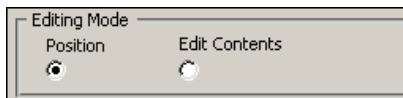

Figure 2-15. Position Mode
- **Move Fields**—To move a field to a different location on the template, select the **Position** editing mode, as shown in Figure 2-15, then drag and drop the field in the new location.